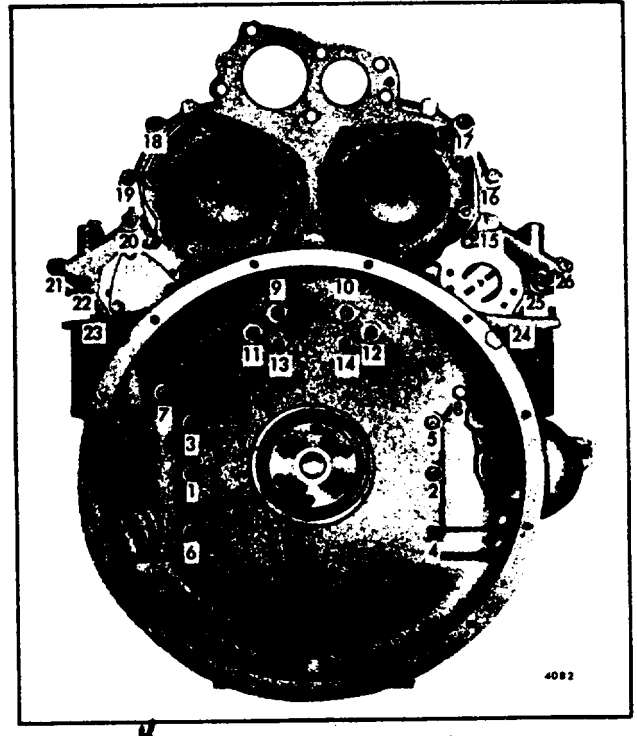

Fig. 4. Flywheel Housing Bolt Tightening Sequence (Operation 2).6V Engine
9. Refer to Fig.4 -for the final bolt tightening sequence then, start at No. 1 and tighten the bolts to the specified torque. Tighten the 5/16"-18 bolts (numbers 13 and 14) to 19-23 lb-ft torque and the 3/8" - 16 bolts (numbers 9 through 12) to 40-45 lb-ft torque. Tighten the remaining 3/8" -16 and 3/8" -24 bolts to 25-30 lb-ft torque.